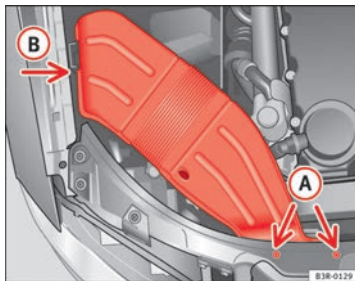

Fig. 190 Air duct on right side of vehicle
- Unscrew bolts (A) ⇒ Fig. 190.
- Detach air duct from guide (B) and take it out.